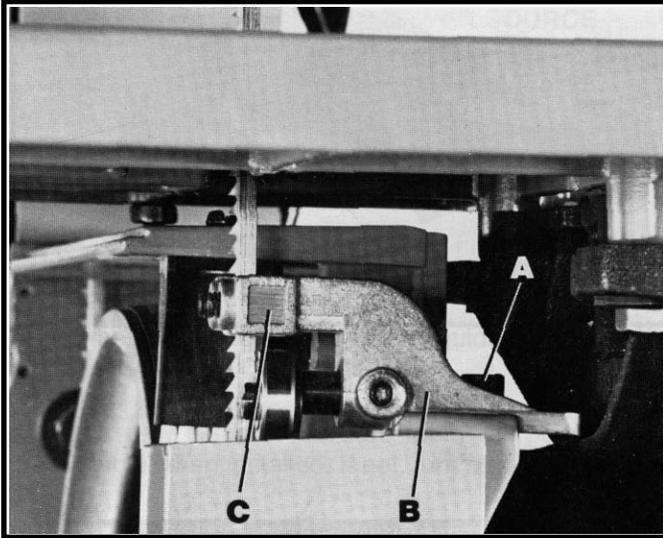

Fig. 23
2. Loosen screw (A) Fig. 23, and move the guide bracket (B) in or out until the front edge of the guides (C) are just behind the blade “gullets” (bottom of saw teeth) while making sure the guides are flat with the blade then tighten screw (A).